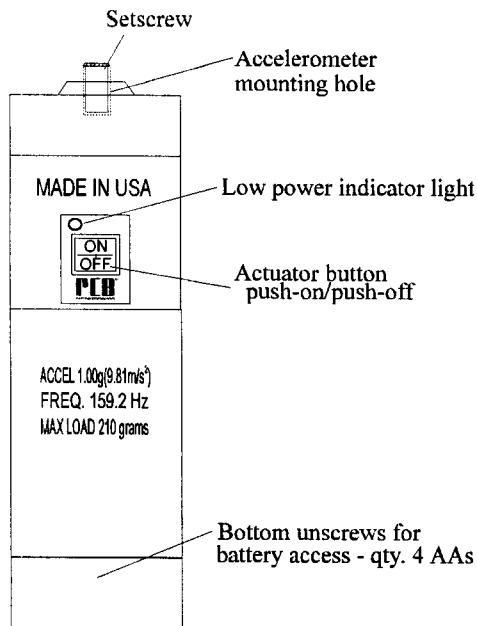

Figure 1. Model 394B06 Handheld Calibrator
The Model 394C06 Handheld Shaker is a small, handy, completely self-contained vibration reference source. It is intended for rapid checking of vibration measurement, monitoring, and recording systems using piezoelectric accelerometers, as well as other types of vibration transducers having a maximum mass of 210 grams. See Figure 1.
A flat mounting plate is also supplied for mounting accelerometers with Petro Wax or other adhesives. Connect the accelerometer to the vibration level indicating instrument and activate the shaker by pushing the ON/OFF button on the side of the shaker. See Figure 1.
- Low power indicator. A low power indicator light is located above the ON/OFF switch. See Figure 1. This light glows when the available power is marginally adequate to drive the shaker (with the mass on the shaker). This indicator does not signify erroneous data. If the Model 394C06 cannot obtain 1 g at 159.2 Hz, then the unit shuts off. The low power indicator signifies an imminent inability to drive the mass on the shaker. The test sensor is too